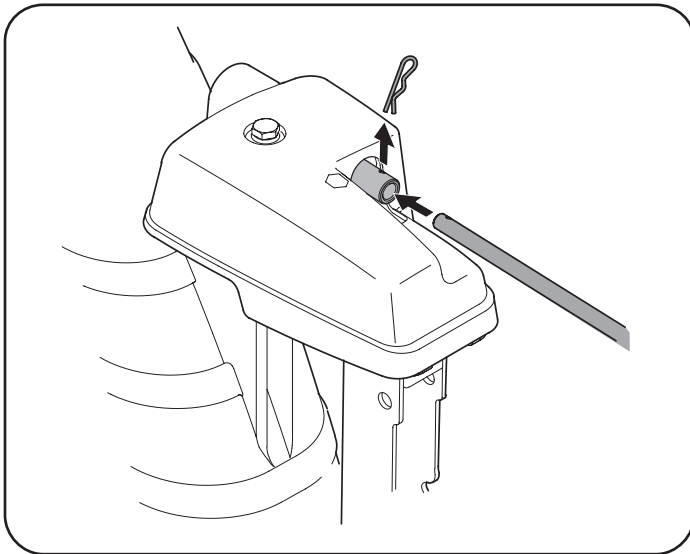

Figure 17
5. Remove hairpin clip (a) from rear of chute control head. See Figure 17.
6. Insert chute control rod (b) into rear of chute control head. See Figure 17. Secure chute control rod to chute control assembly with hairpin clip removed in Step 5.